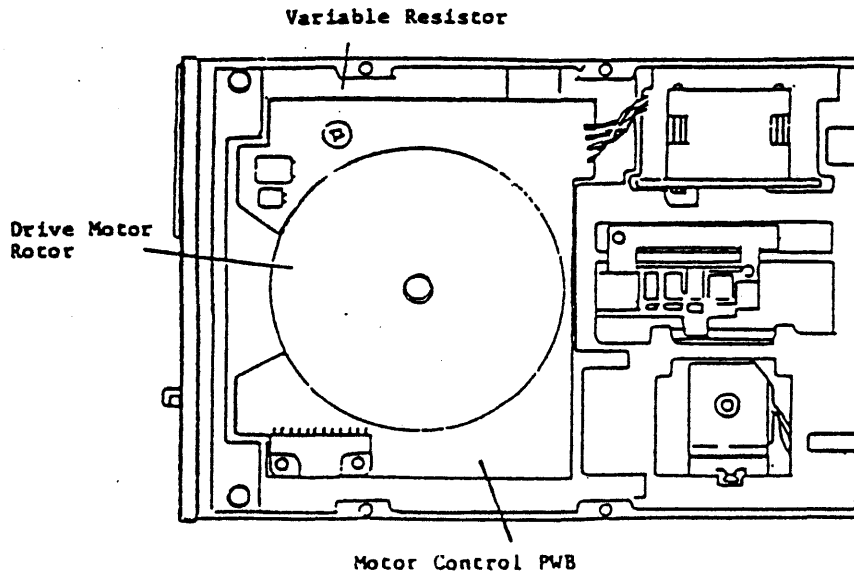

Figure 4.9.2
1. Adjust the variable resistor on the motor control PWB with a Phillips head screwdriver until the index period is 166.7 ms $\pm 1.5\%$ (refer to figure 4.9.2)